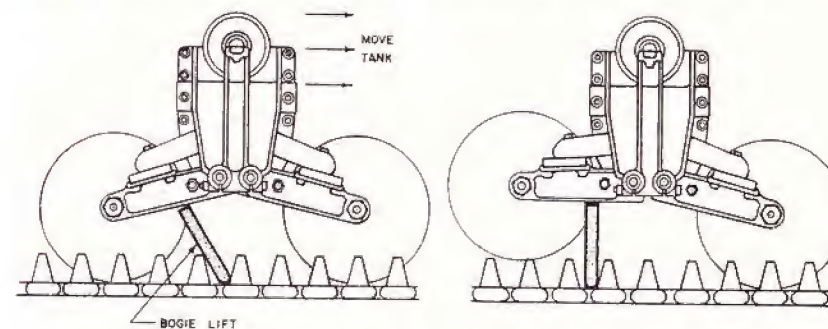

FIGURE 49.—Use of bogie lift to raise wheel for removal.
d. To replace bogie wheels (fig. 49).—Bogie wheels can be replaced without disconnecting or loosening the track.
(1) Place bogie wheel lift under bogie bracket as shown in figure 49. Drive the tank upon bogie wheel lift. Caution must be exercised that the tank is moved slowly and stopped in the proper position.